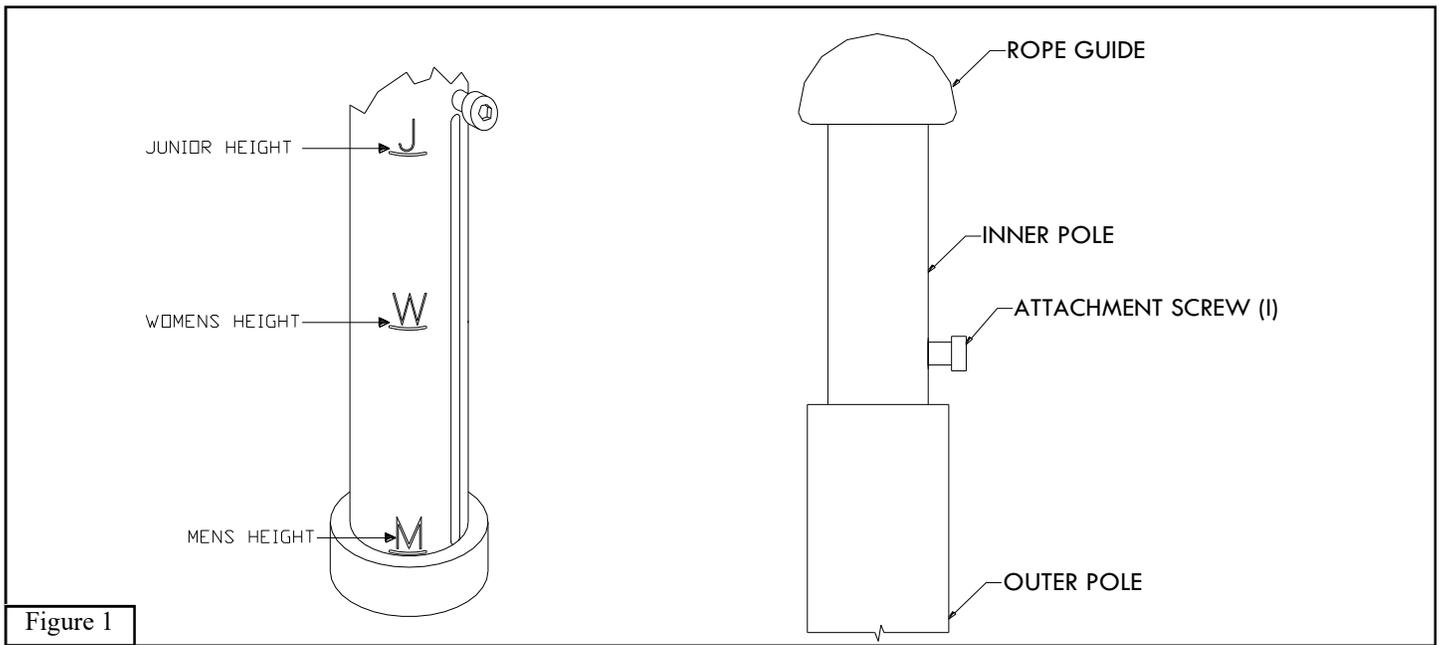

Figure 1
1. Set *Standards (A)* into *Floor Sockets (D)*. Raise the inner pole of the *Standard (A)* to either the men's, women's or junior's height marks on the poles using the EZ net height adjustment crank. This line should be just visible above the top of the outer pole. See Figure 1.
2. Lay the net out finding the end with the factory installed rope ratchet device on the bottom rope. Install the opposite end of the net to the non-winch standard by running the top rope over the rope guide and attaching the loop to the factory installed *Attachment Screw (I)*. Then attach the other end of the net to the winch standard by running the top rope over the rope guide and connect it to the 2" winch strap using the *Carabineer (K)*. See Figures 1 & 2.
1. Loosen top net cable. Use the net height adjustment crank to adjust the inner poles to the desired height indicated by the height markings machined on the inner poles See Figures 1 and 3.